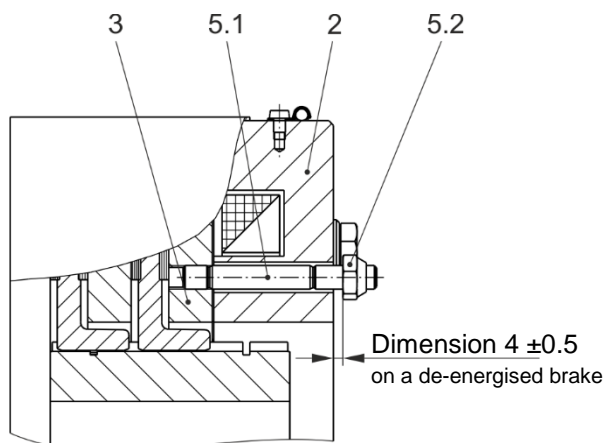

Fig. 6
Before putting the elevator or the system into repeat operation start-up, the distance between both hexagon nuts (5.2) and the coil carrier (2) must be re-adjusted to 4 ± 0.5 mm (on a de-energised brake), as described on Fig. 6.